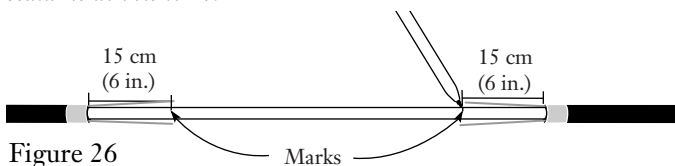

Figure 26
6.14 Place a mark 15 cm (6 in.) from the end of each side of the exposed section of central tube with a permanent marking pen (Figure 26). *These mark locations will vary depending on the hardware being utilized.*